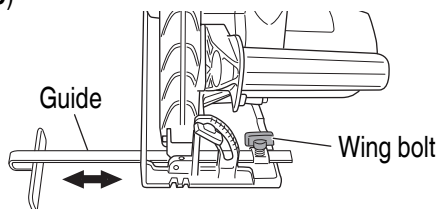

Fig. 5
- Regulating the guide (Optional accessory) (**Fig. 5**)